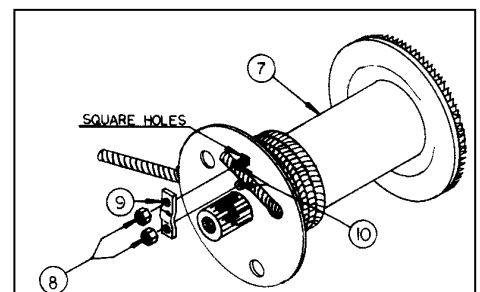

Fig. 3: Cable Installation
1. Feed cable into bottom of drum (item 7, Fig. 3). From inside drum, thread the cable through one round hole in the drum side, until it extends 1-1/2" past the two square holes.
2. Clamp the cable to the outside of the drum with keeper parts (items 8, 9, 10, Fig. 3). Be sure that carriage bolt heads are on the inside of winch drum.